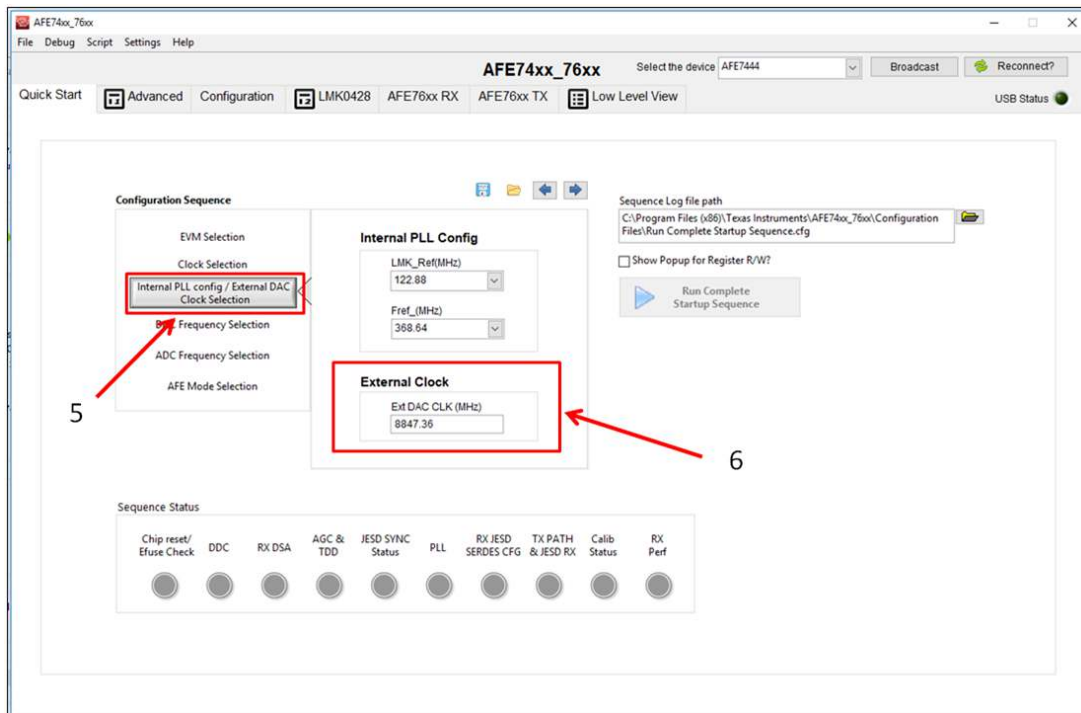

Figure 11. External DAC Clock Selection
5. Navigate to the *Internal PLL config / External DAC Clock Selection* page, labeled as 5 in Figure 11.
6. As shown by label 6 in Figure 11, type in *8847.36* and press enter.